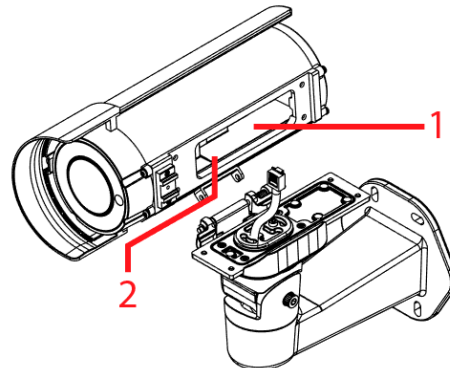

Figure 12
**Note:** The figure below indicates the location of the camera buttons and connections (1) (Figure 12) and Desiccant bag (2) (Figure 12) on the camera.